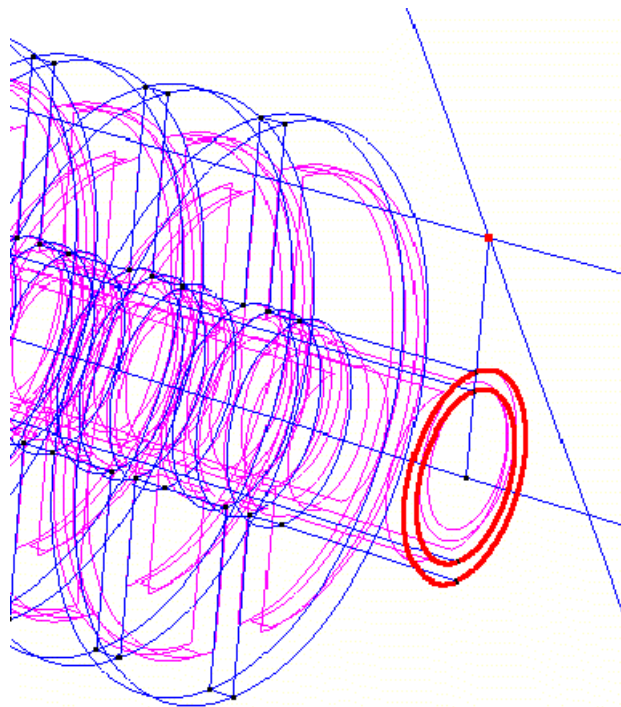

Figure 16. The magnified right end of the model, and the lines to be selected
- 4 . Click **Select** and select the four lines that define the right end of the pipe (see Figure 16). Press **ESC** when the selection is finished.